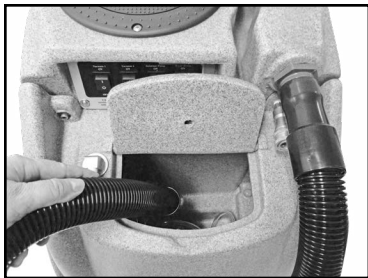

Figure 1
- If water remains in the solution tank, use the vacuum hose and vacuum the excess water from the tank (Figure 1).